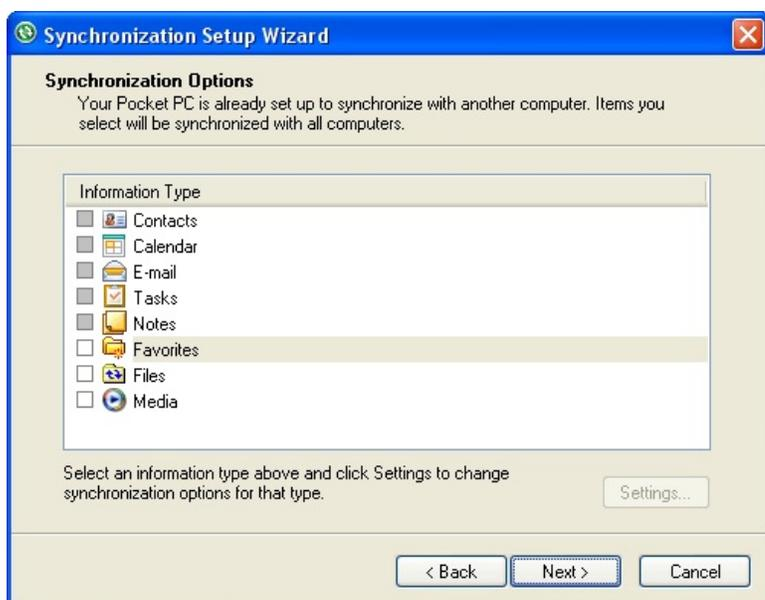

Figure 58. Unmark All Synchronization Options.
- 3) Connect the Micro-UF6's USB port to the computer. If this is the first time the Micro-UF6 has been connected to this computer, Windows will display a series of "Found New Hardware" messages indicating a mobile device (e.g., the Micro-UF6 computer) has been detected. The Synchronization Setup Wizard will start. Follow the wizard prompts for a standard partnership according to step (4).
- 4) On the Synchronization Options screen, **unmark ALL checkboxes, scrolling down as needed to ensure all items have been deselected** (Fig. 58). This will prevent the host computer and Micro-UF6 from automatically exchanging files.